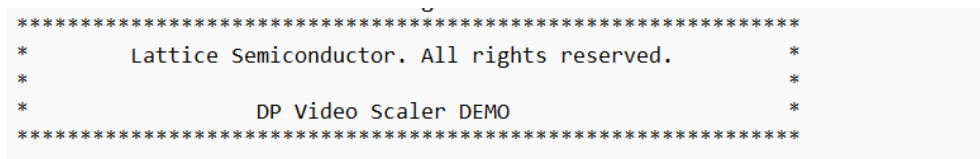

Figure 4.2. PuTTY Window
3. Click on the **Open** button and the PuTTY terminal opens. Press the reset push button (SW1) on the evaluation Board and the demo starts as shown in Figure 4.2.